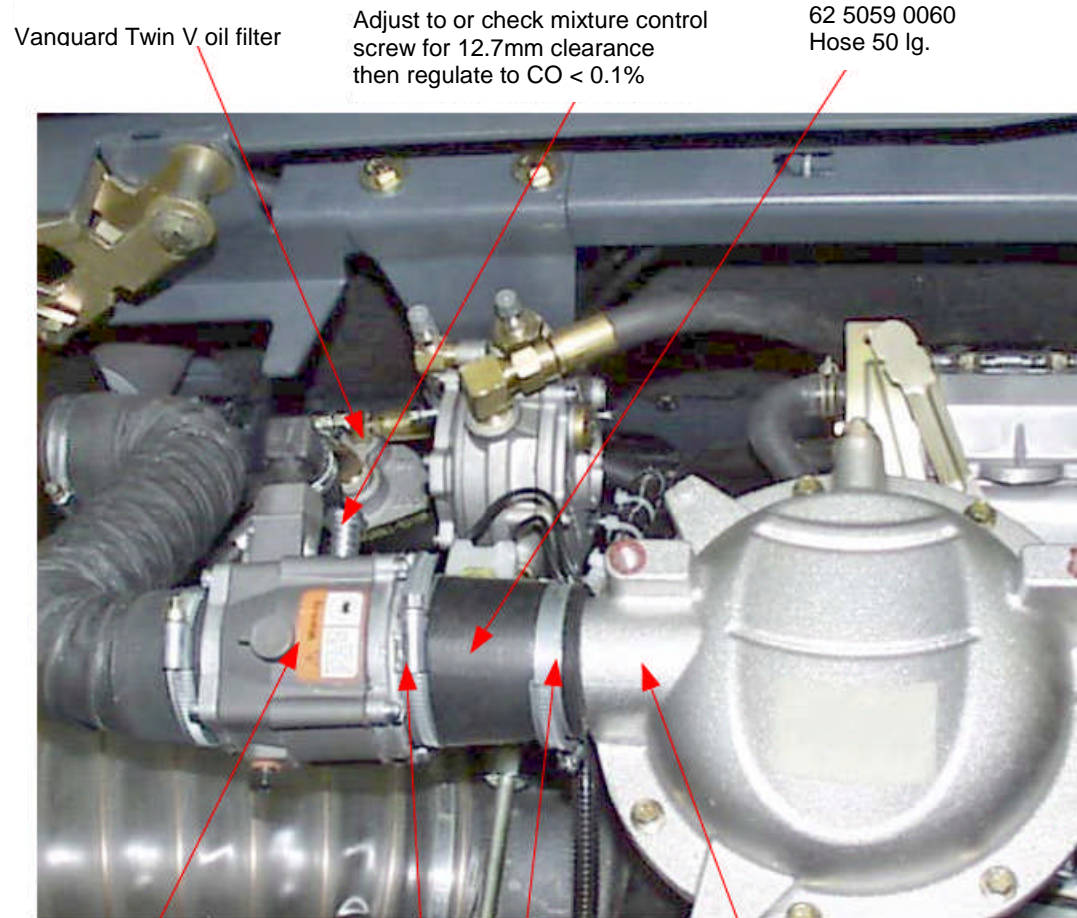

Fig. 6
- 6) Take to service temperature; in idle run (1,550 +50 1/min) CO should amount to < 0.1 % otherwise regulate via mixture control screw, see Fig. 6